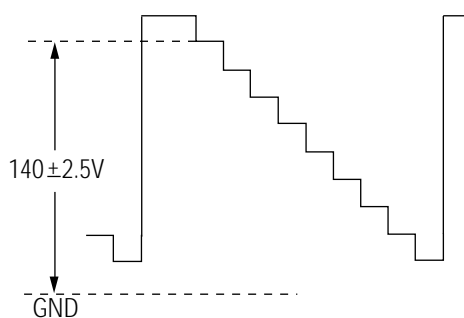

Fig. 4-1
4. Adjust the Screen VR (on the FBT) so that the voltage on the oscilloscope becomes  $140 \pm 2.5V$  (See Fig. 4-1).